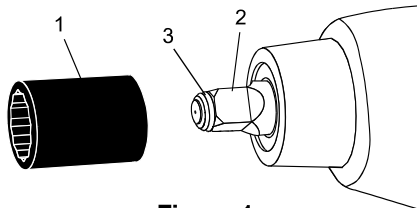

Figure 1
To install a socket, press the square portion of the socket (1) onto the square drive (2) of the Impact Wrench (see Fig. 1). NOTE: Slide the socket fully onto the square drive so the socket retainer (3) will hold the socket firmly in place.